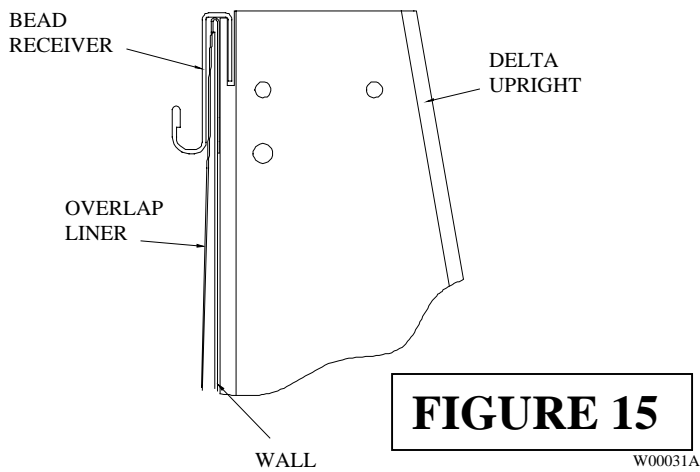
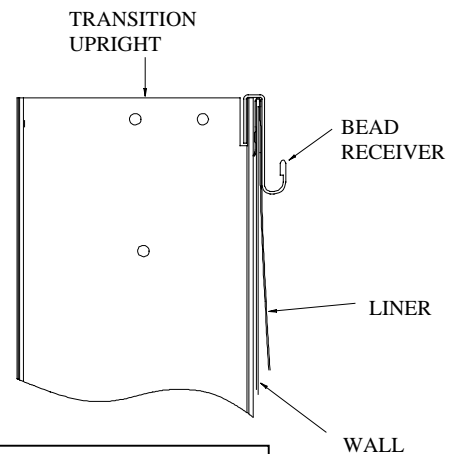

FIGURE 15
FIGURE 16
Step 14: See Figure 14, Detail 14A, Figure 15 and Figure 16. Place the liner over the edge of the wall. Make sure the overlap is equal around the outside of the pool wall. Cut the liner interlock into 2" pieces and center the 1 1/2" pieces of the liner interlock over the liner at each upright. Place the bead receiver over the liner interlock and liner as shown, to secure the liner in place.